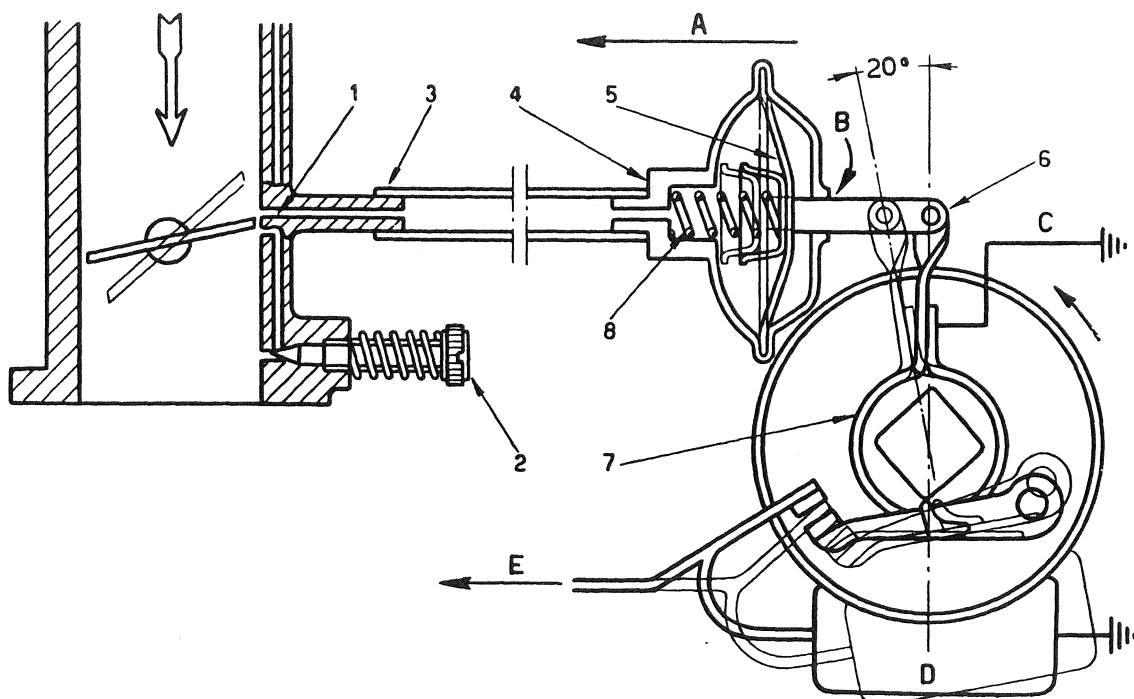

Fig. 434 - Vacuum advance control operation diagram.
The vacuum hole (1, fig. 434) in carburetor is drilled next to idle speed mixture richness setscrew (2), right under the throttle when in closed position.